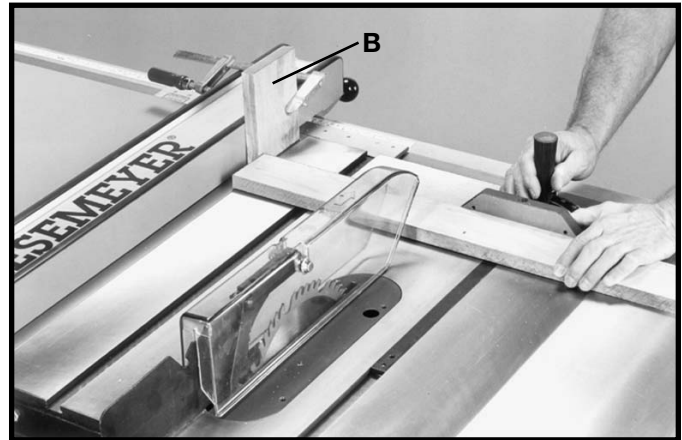

Fig. 129
When cross-cutting a number of pieces to the same length, a block of wood (B), can be clamped to the fence and used as a cut-off gage as shown in Fig. 129. It is important that this block of wood always be positioned in front of the saw blade as shown. Once the cut-off length is determined, secure the fence and use the miter gage to feed the work into the cut.